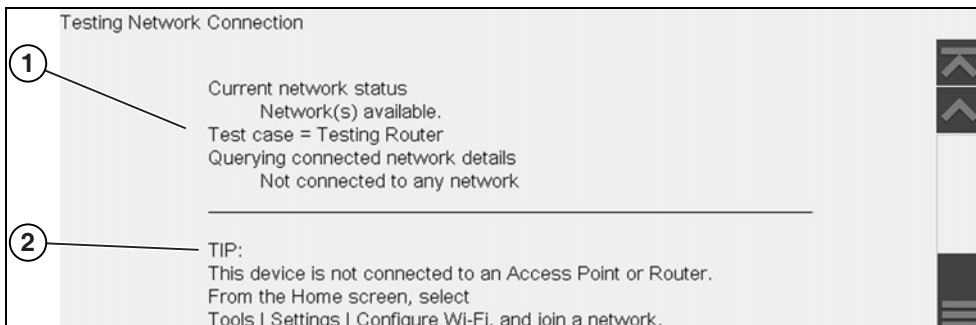

Figure 15-5 View Summary
- If a connection issue(s) is present, select **View Summary** to review the results. The summary information is helpful if you are experiencing difficulties with your connection (Figure 15-5). Scroll through the summary information to review the test results for each system and Tip messages for the current connection issue. See *Connection Tests - Troubleshooting* chart in “Wi-Fi Troubleshooting and Status Messages” on page 150 for additional information.